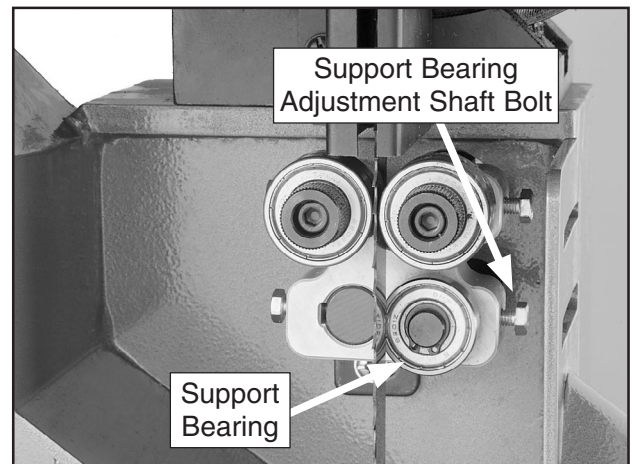

Figure 44. Lower support bearing controls.
3. Familiarize yourself with the lower support bearing controls shown in **Figure 44**.